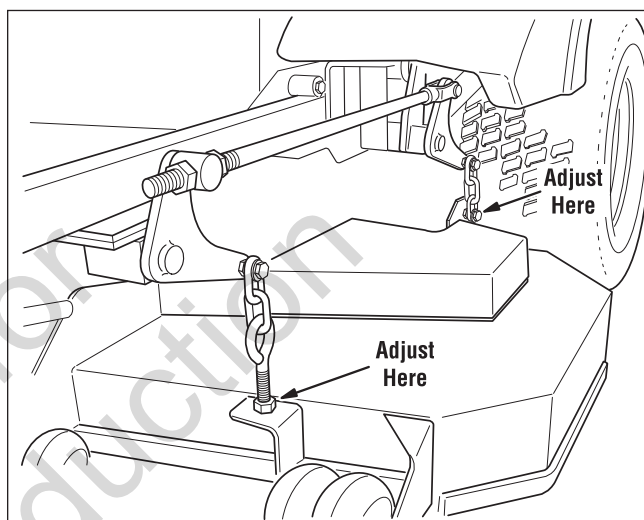

Figure 48. Hanger Chain Adjustment
4. Adjust the front eyebolts until the chains are tight and the deck is still resting on the 2 x 4's. Tighten the jam nuts. See Figure 48.
5. Loosen the nuts and allow the rear of the deck to rest on the 2 x 4's. Slide the chains down in the slots until the chains are tight and tighten the nuts. See Figure 48.